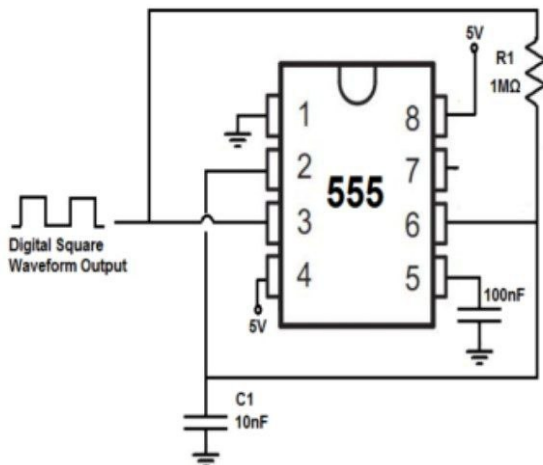

Fig. 1. Connection in 555 timer circuit
- 1) Connect 555 timer according to the figure 1